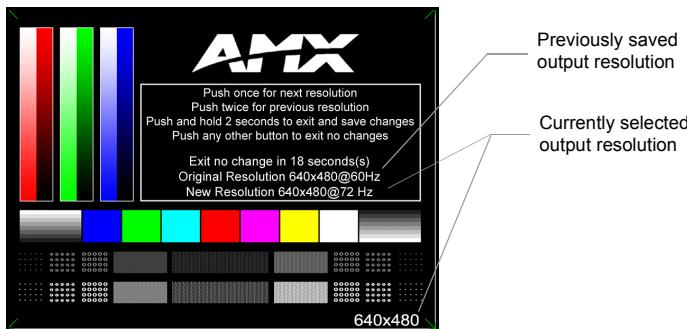

FIG. 3 Resolution Setup page (showing the comparative resolutions)
1. Firmly press and hold the front TPI/4 **RESOLUTION** button. This single press opens the Resolution Setup page (FIG. 3) on the panel.